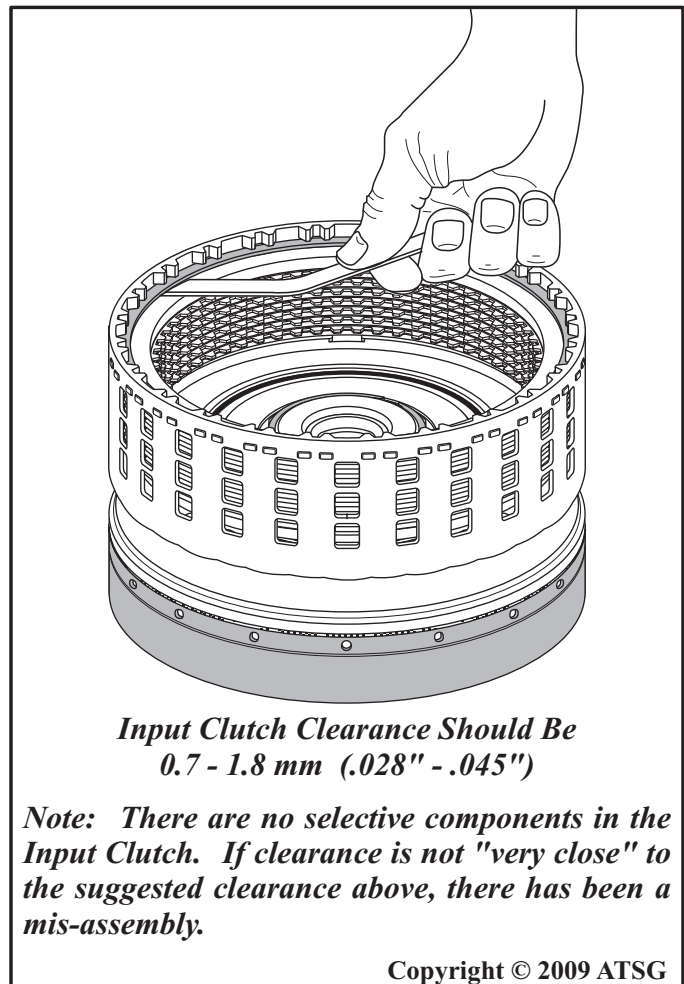

Figure 101
13. Measure with a feeler gage between snap ring and the backing plate, as shown in Figure 101.
14. Input clutch clearance should be 0.7-1.8 mm (.028" - .045"), as shown in Figure 101.